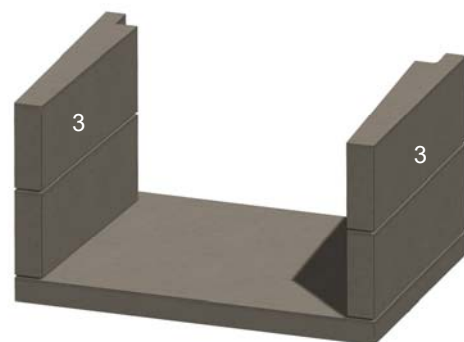

Figure 10. Middle Sidewalls
D. Install the middle sidewalls (3), ensuring they are level and square. See Figure 10.